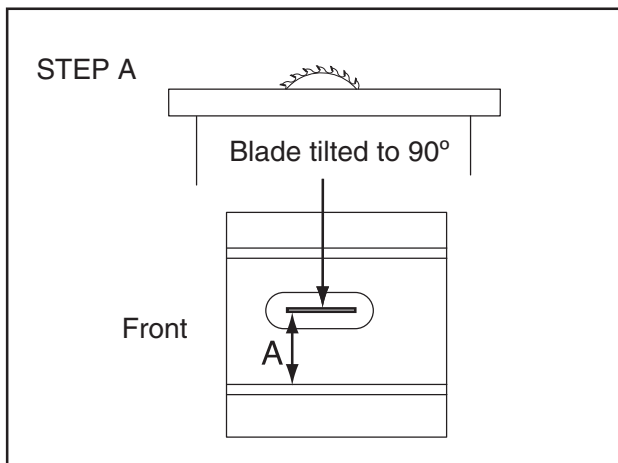

Figure 127. Measuring distance from miter slot to carbide tip of blade.
3. Measure from the miter slot to a carbide tip on the blade, as shown in **Figure 127**.